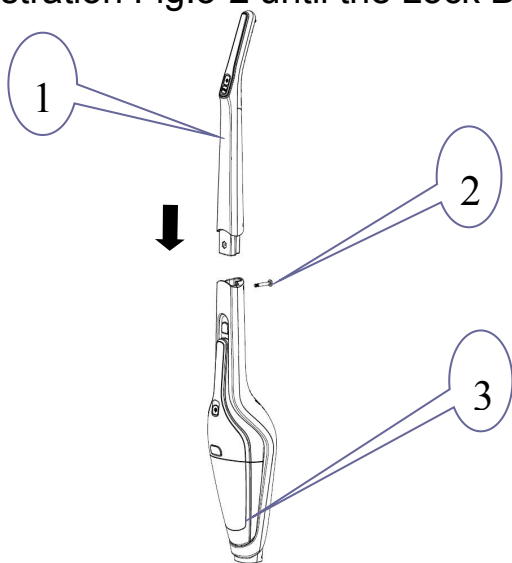

Fig. 3-1
To insert the Handle (1) to Body (3) along the direction shown on illustration Fig.3-1. And then fasten the Bolt (2) to the Body's (3) bolt socket along the direction shown on illustration Fig.3-1 so that the Handle can be locked into the Body safely.